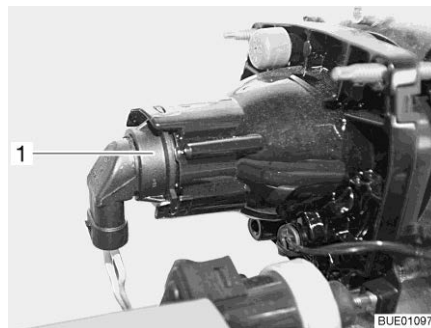

Fig. 218 Low beam/main beam/parking light
- Put your hand behind the lamp holder (Fig. 218,1).